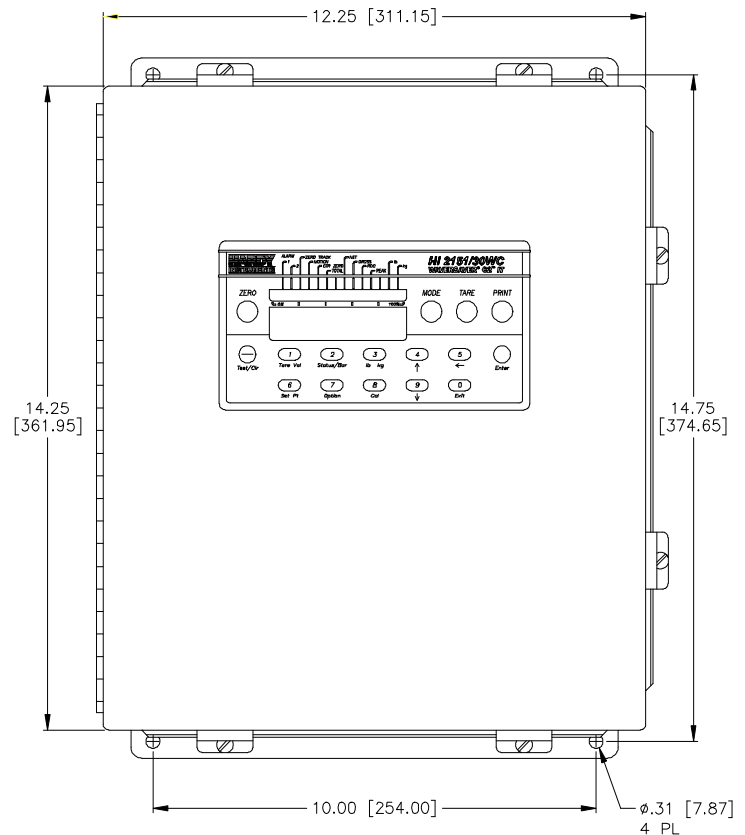

FIG. 3-6 INSTALLATION OF WALL MOUNT MODEL
Step 2. Mount the Instrument securely using all four mounting points. (See Fig. 3-6)